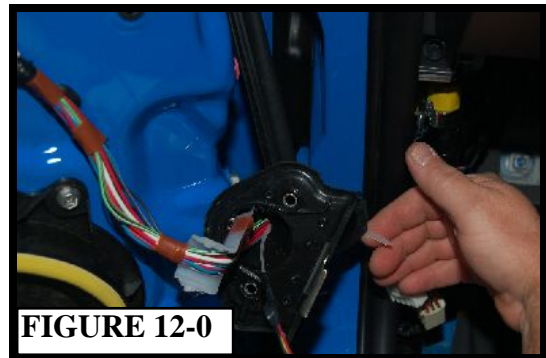

FIGURE 12-0
- (a). Route the BlueConnect harness through the harness boot on the driver side door to the left kick panel area. (FIGURE 12-0)